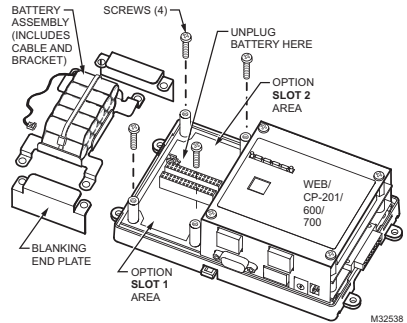

Fig. 1. Removing battery and bracket assembly
3. Remove the battery and bracket assembly by taking out the four screws. (Fig. 1)